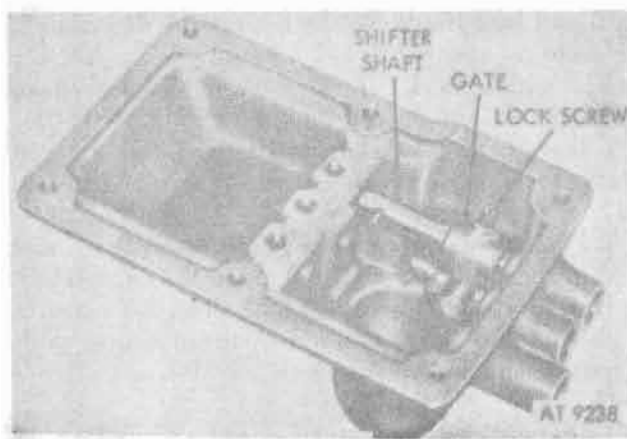

Figure 8-105. Shifter gate lock screw.
f. Position reverse-shifter gate on shaft over slot as shown and install lock screw (fig. 8-105). Refer to figure 8-103 for position of slot.